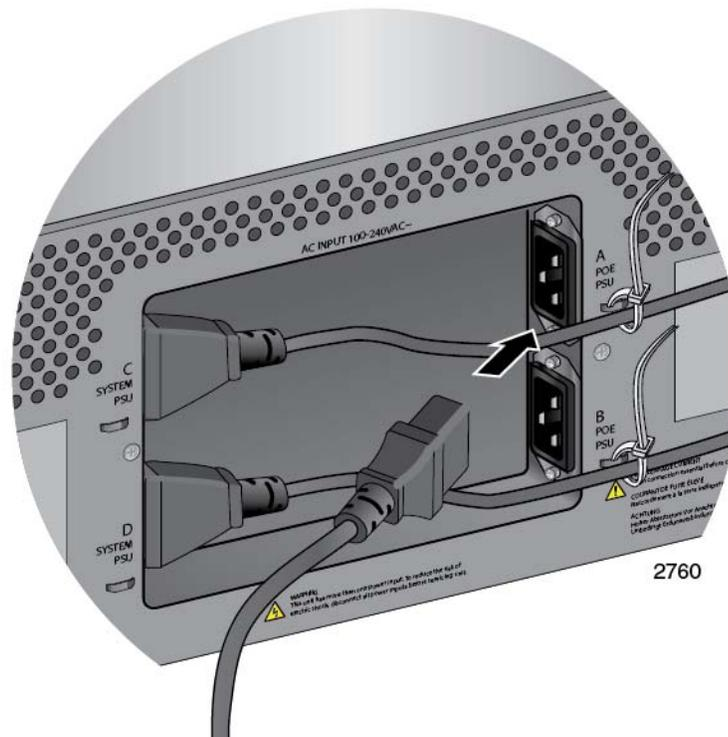

Figure 100. Connecting the AC Power Cord for the AT-SBxPWRPOE1 Power Supply
2. Plug the AC power cord that comes with the power supply into one of the plugs, as shown in Figure 100.